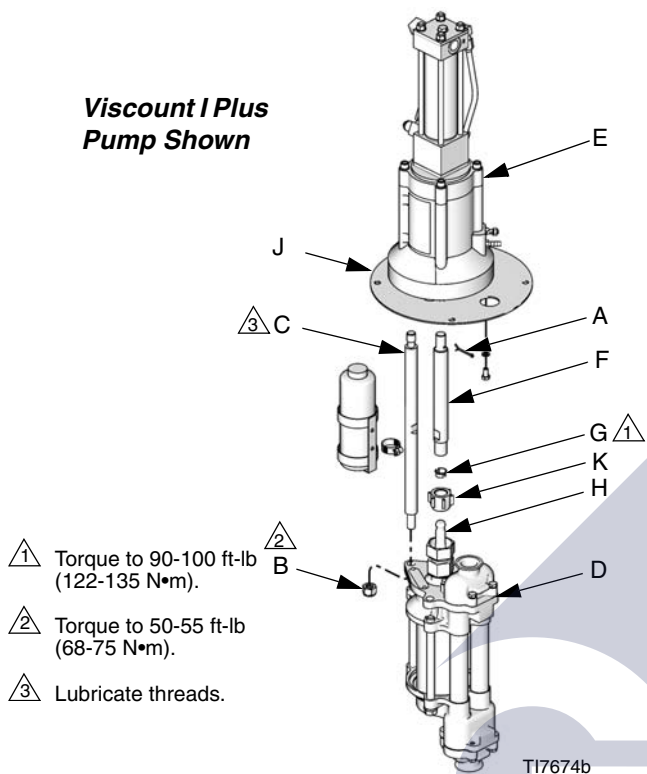

FIG. 6
3. Loosen the coupling nut (K) and remove the collars (G). Remove the coupling nut from the piston rod (H). Unscrew the locknuts (B) from the tie rods (C). Pull the lower (D) off the motor (E). See FIG. 5 and FIG. 6.
1. Loosen, but do not remove, the screws holding the adapter plate (J) to the motor (E), on Viscount I Plus pumps. See FIG. 6. For Viscount II pumps, torque screw (N) to 50-55 ft-lb (68-75 N•m) into motor (E).
2. Screw the tie rods (C) into the adapter plate (J) and torque to 50-55 ft-lb (68-75 N•m). On Viscount I Plus pumps, the tie rods will engage threaded holes in the base of the motor. Viscount II pumps will engage into the adapter plate (J).
3. Fill the cavity in the bottom of the motor shaft with grease. Screw the coupling rod (F) into the motor shaft until the pin holes align. Install the pin (A) in the first hole from the end of the coupling. On Viscount II pumps, torque the coupling nut (M) into the motor shaft.
4. Align the lower (D) with the tie rods (C) and loosely install the tie rod locknuts (B).
5. Insert the collars (G) and screw the coupling nut (K) onto the coupling rod (F) and torque to 90-100 ft-lb (122-135 N•m).
6. For Viscount I Plus pumps, torque the holding the adapter plate (J) to the motor (E) to 15-17 ft-lb (20-23 N•m). For Viscount I Plus and Viscount II pumps, torque the tie rod locknuts (B) to 50-55 ft-lb (68-75 N•m).